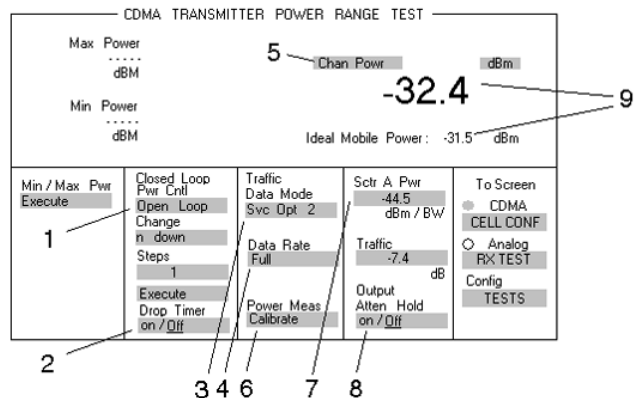

Figure 12. CDMA TRANSMITTER POWER RANGE TEST Screen
Access the CDMA TRANSMITTER POWER RANGE TEST screen, see Figure 12.
4. Press **More 1 of 3** field to obtain CDMA Config sub-menu 2 of 3 (see Figure 12).
6. Press **More 2 of 3** softkey to obtain CDMA Config sub-menu 3 of 3 (see Figure 12).